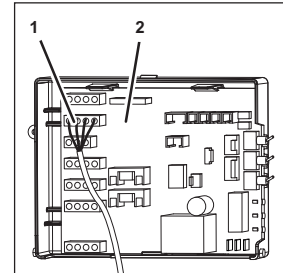

Fig. 61
1. Disconnect the plug (Fig. 61/1) of the agitator motor from the control system (Fig. 61/2).
11. Connect the plug (Fig. 61/1) of the agitator motor to the control system (Fig. 61/2).